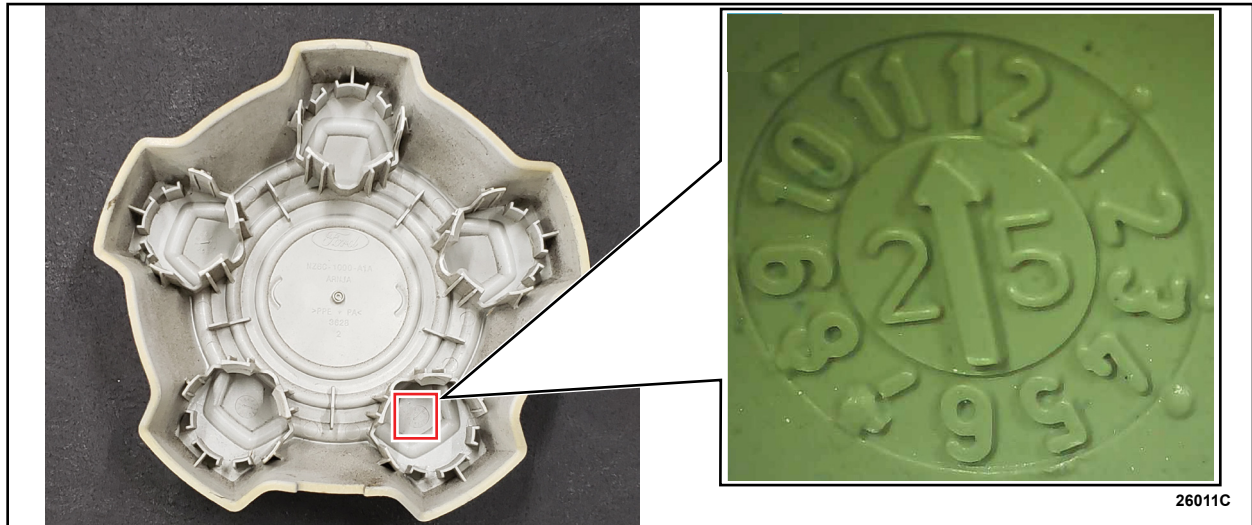
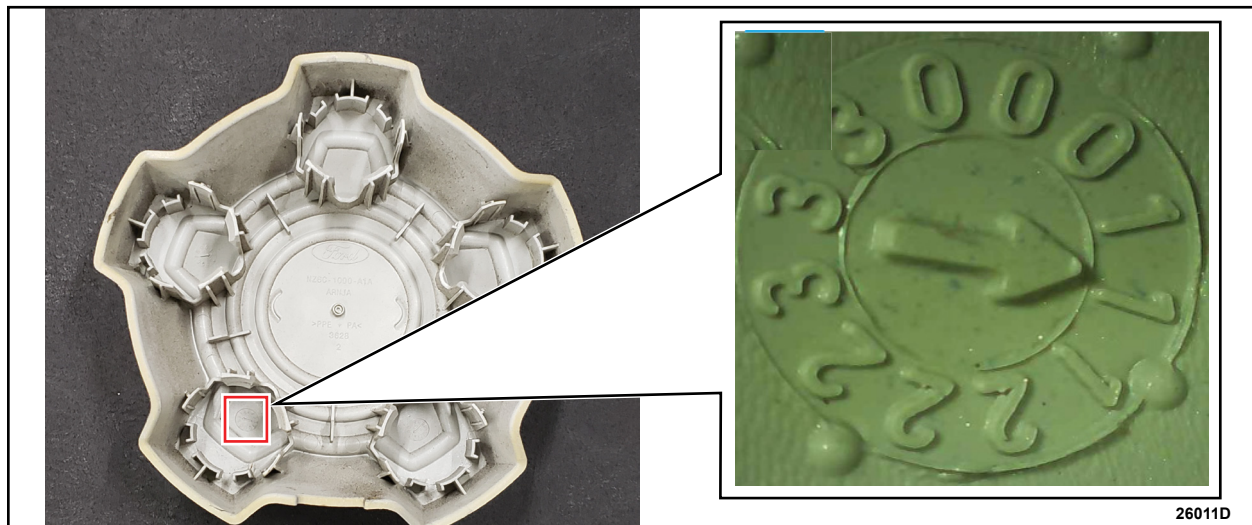
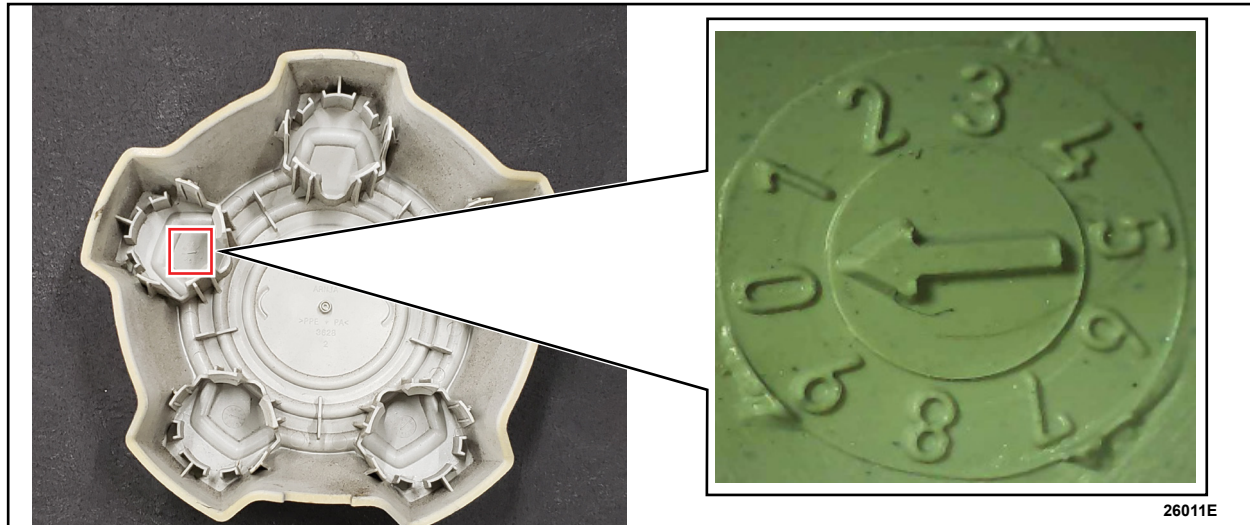

FIGURE 2
FIGURE 3
FIGURE 4
3. Visually inspect the area of the wheel center cap shown in Figure 2. The traceability clock, in this location, indicates the Year and the Month that the part was built. The numbers on both sides of the arrow indicate the Year that the part was built. The arrow points to the Month that the part was built.
4. Visually inspect the area of the wheel center cap shown in Figure 3. The traceability clock, in this location, will be used, along with information from Step 5, to determine the Day that the part was built.
5. Visually inspect the area of the wheel center cap shown in Figure 4. The traceability clock, in this location, will be used, along with information from Step 4, to determine the day that the part was built.
6. The wheel center caps that must be replaced are determined by the traceability clocks shown in Figure 2, Figure 3, and Figure 4. Figure 2 traceability clock must equal "25" AND "11". Figure 3 traceability clock must equal "1". Figure 4 traceability clock must equal "0". This means the part was produced on November 10, 2025.